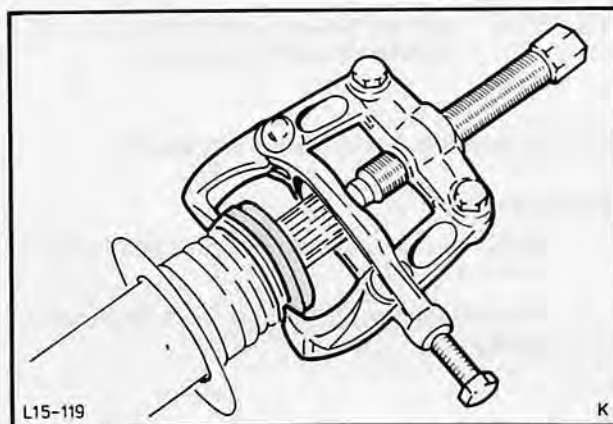

Fig. 142. Remove ball bearing with protective cap
4. Remove bearing with caps (2). Use two-legged puller, Fig. 142.